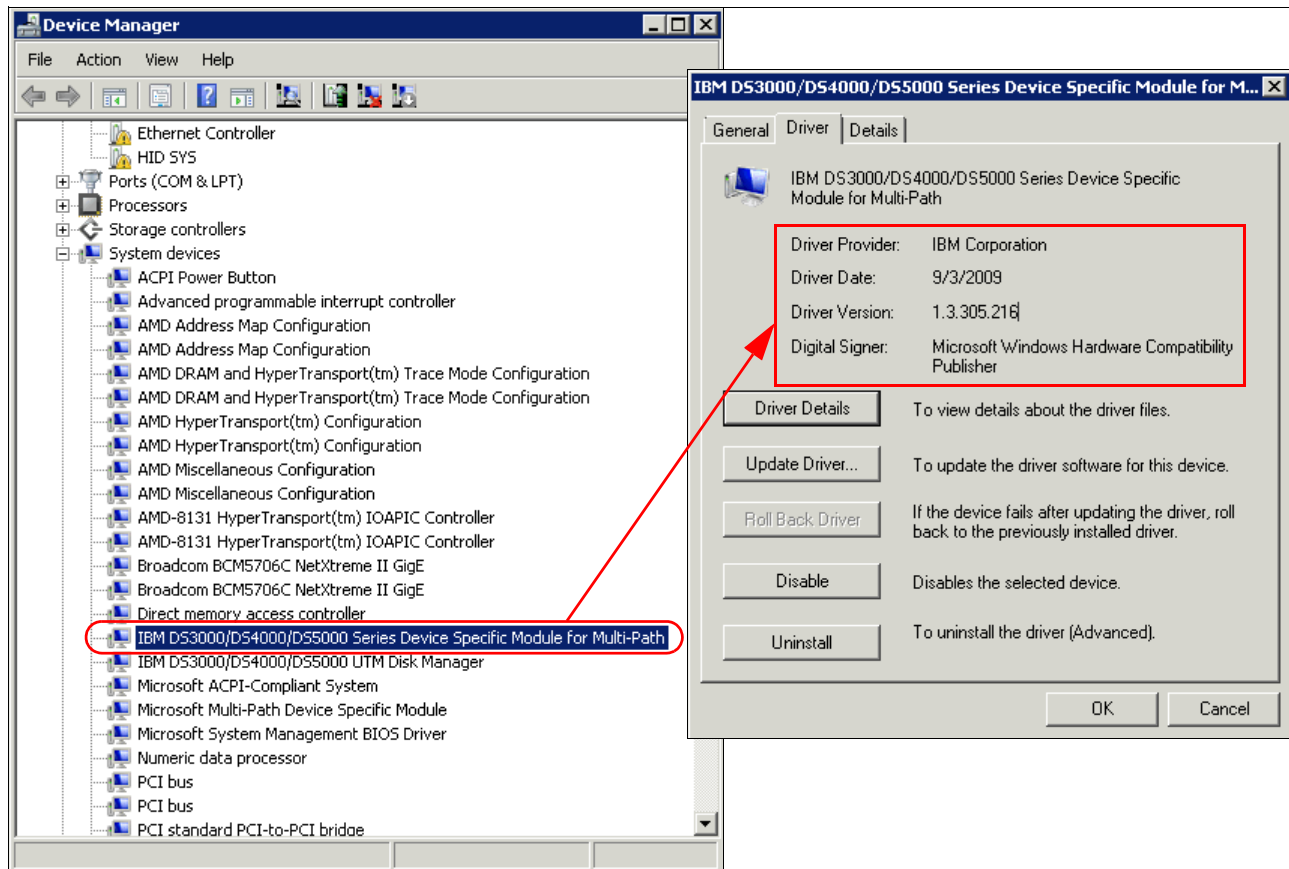

Figure 5-124 Windows Device Manager/DSM
- If running the IBM Storage Manager 10 Failover driver, you will find, under System devices, an entry named IBM DS3000/DS4000/DS5000 series Device Specific Module, as shown in Figure 5-124 on page 436. This entry is used to set the failover policies.